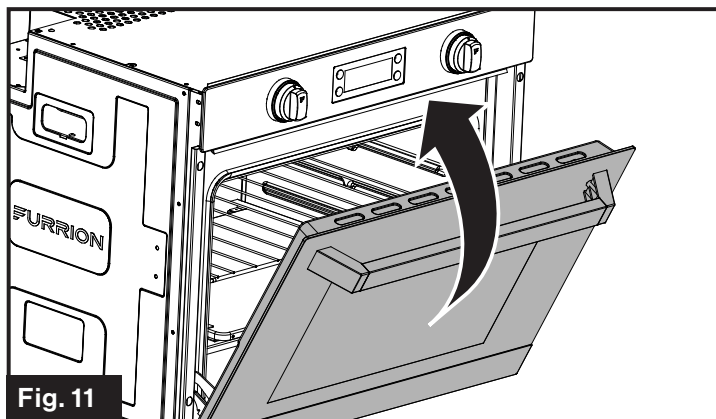

Fig. 11
4. Close the door until it stops. (Fig. 11)